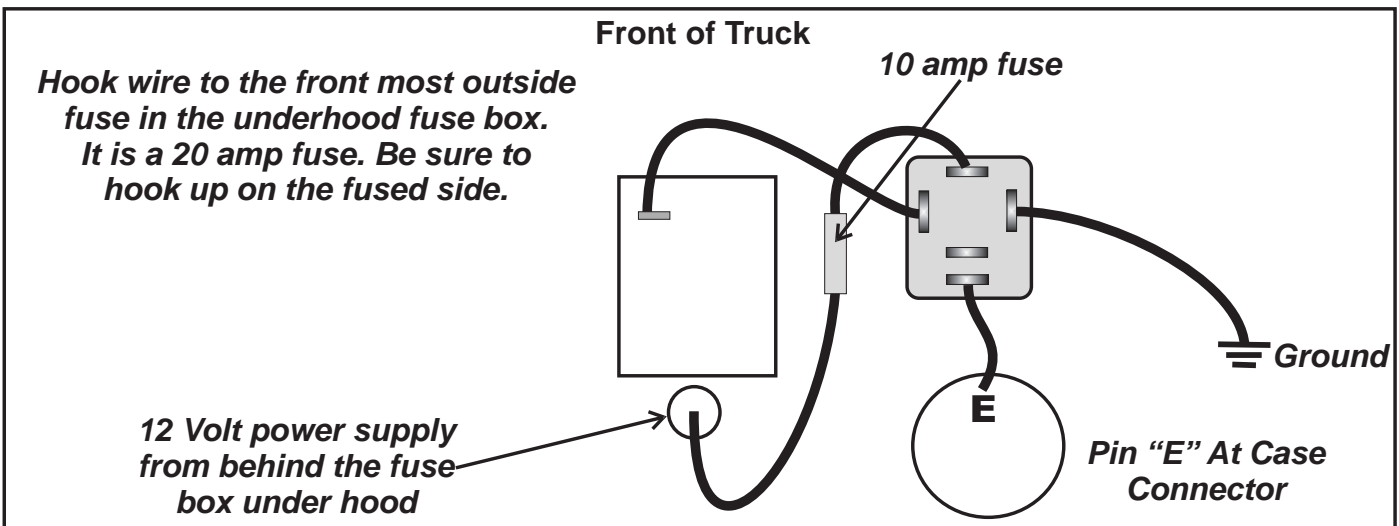

Figure 125
• When solenoid codes are stored due to a voltage drop at case connector terminal “E” caused by a faulty ignition switch, either replace the ignition switch or make the harness using a standard relay as seen in Figure 125 below to bypass the ignition switch and eliminate the codes. These codes are usually stored after engine startup. It is a good idea to put a function explanation tag on the harness.